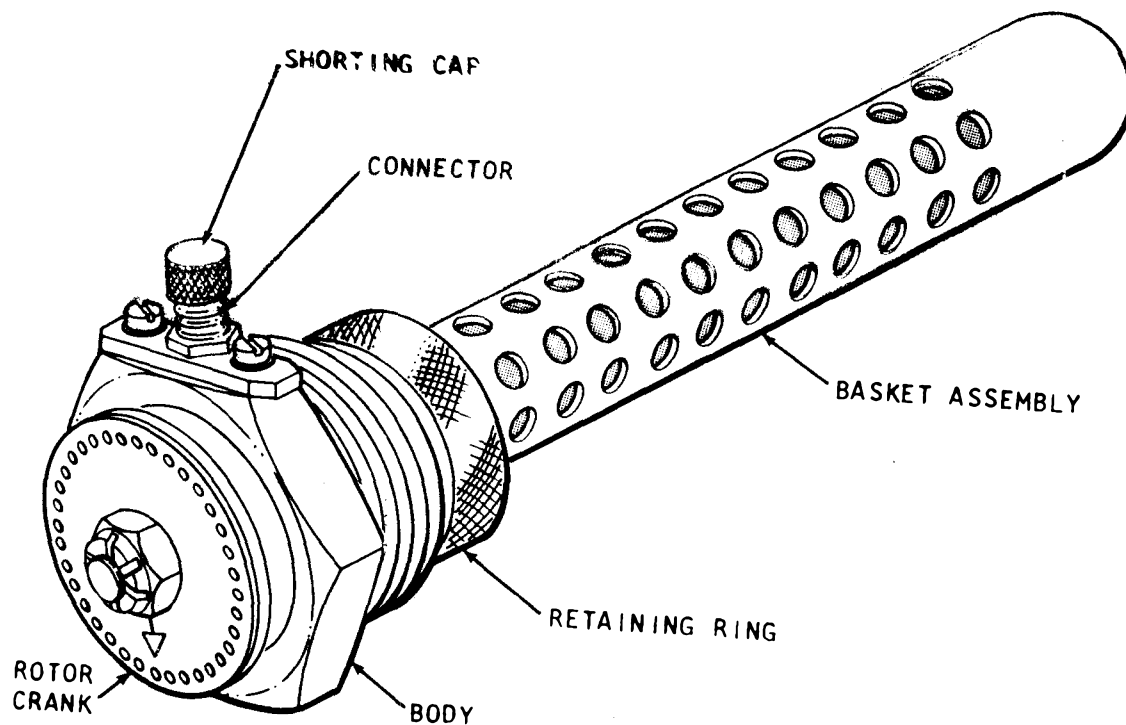

Figure 5-57. MK 265 Igniter
- c. MK 265 Igniter: Consists of the igniter body, rotor crank, perforated plastic basket, and ignition elements. The rotor assembly can be rotated 90° relative to the body to provide a positive mechanical safing capability. Used with the MK 39 motor (reference figures 5-57 and 5-58).